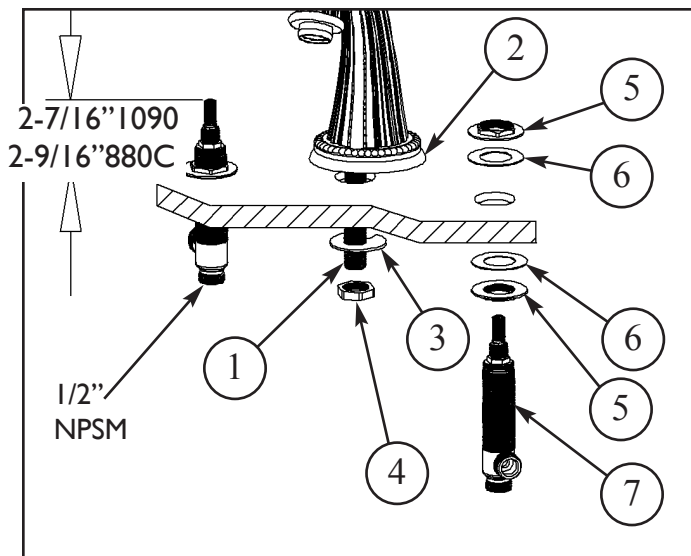

Figure 1
1. Place the spout SHANK (1) through base RING (2) and center hole of mounting surface. Secure spout into place with WASHER (3) and NUT (4), (align the WASHER (3) slot in direction of pop-up rod). See Figure 1.
2. Place flange NUT (5) and WASHER (6) on valve BODY (7). Insert BODY (7), (blue cold & red hot), through hole in the mounting surface. Adjust and secure with additional WASHER (6) and flange NUT (5) so that the top of valve is 2-7/16" (1090) & 2-9/19" (880C) above top of mounting surface. Before tightening down flange NUT (5), check HANDLE (15) alignment by placing onto Valve (7). Any adjustments for rotational alignment must be made to the valve BODY (7), not to the cartridge. See Figure 1.